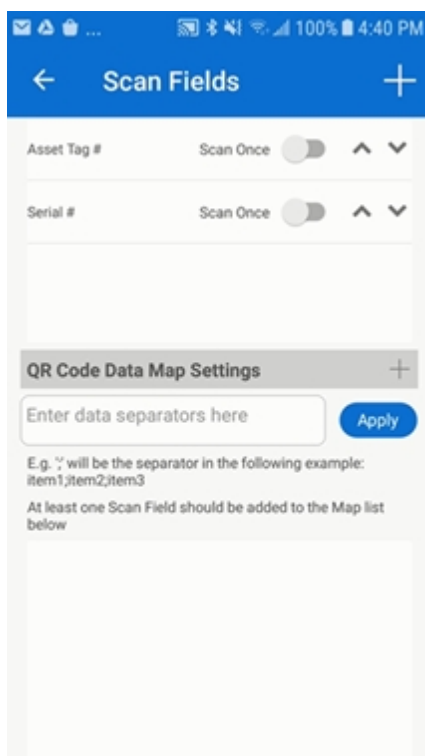

Figure 4
1. Add a Location field to the Scan Field list in addition the two fields in Figure 4 with the Scan Once flag enabled.
1. Enter the character ',' in the 'Enter data separators here' field in Figure 4 and tap on the 'Apply' button. This is the comma delimiter in the QR Code data in the example above.